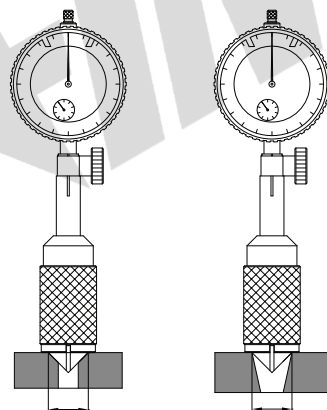
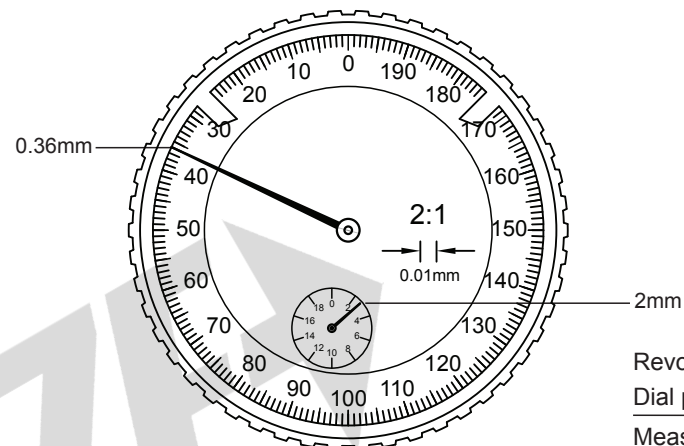
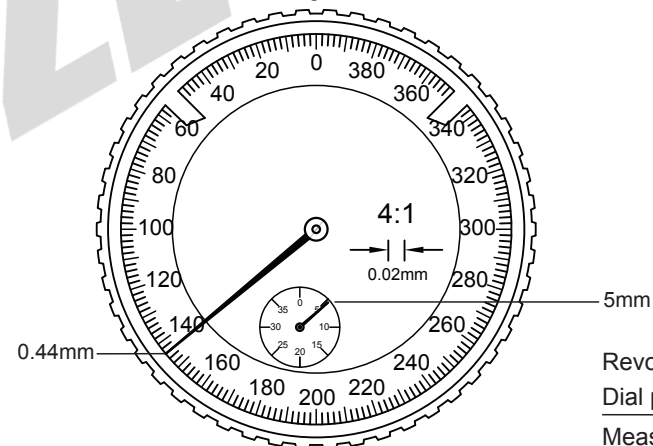

fig.2
fig.3
fig.4
- Measurement: make base to contact the workpiece well, and make measuring tip to contact hole well, get the reading from indicator (fig.2), read as fig.3 and fig.4.